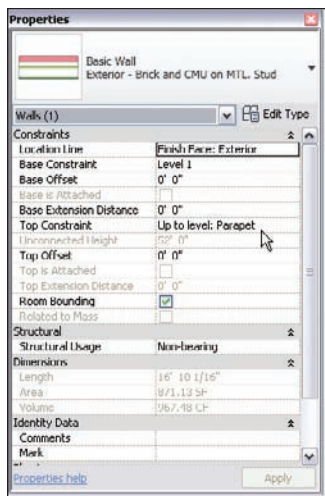
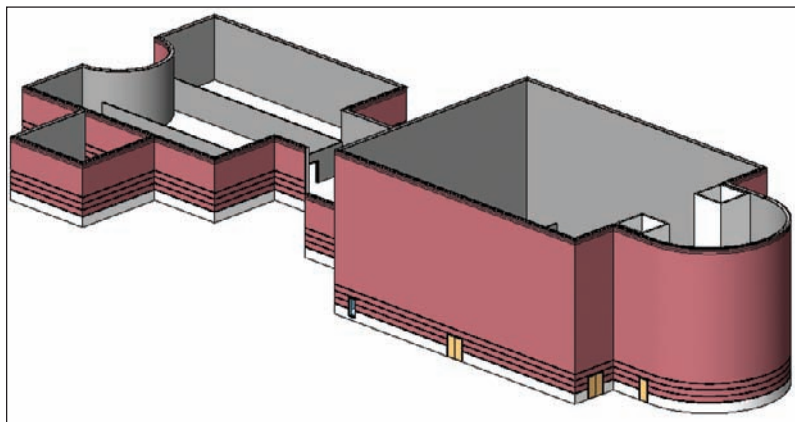

FIGURE 3.21 Setting the top constraint to Up to Level: Parapet
FIGURE 3.22 The walls on the east side of the building are now constrained to the Parapet level.
3. In the Properties dialog, under the Constraints category, change Top Constraint to Up To Level: Parapet, as shown in Figure 3.21. Your walls should now extend to the Parapet level, as shown in Figure 3.22.